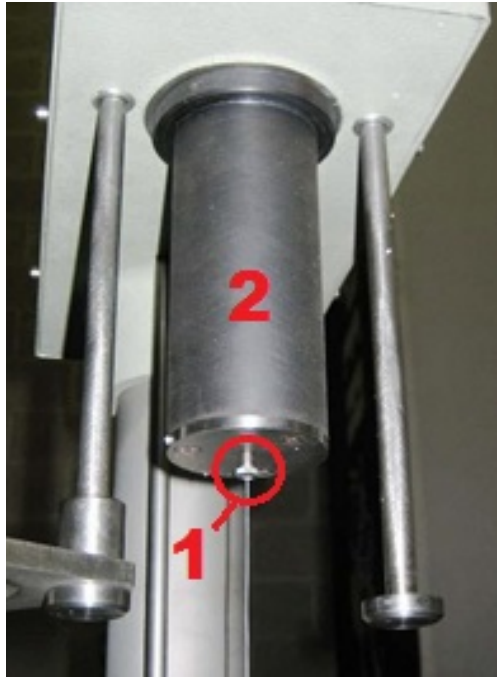

Figure 4: Plumb bob screw (1) attachment inserted into specimen tube stripping post (2).
1. Screw the plumb bob attachment screw into the specimen tube stripping post as shown in Figure 4.